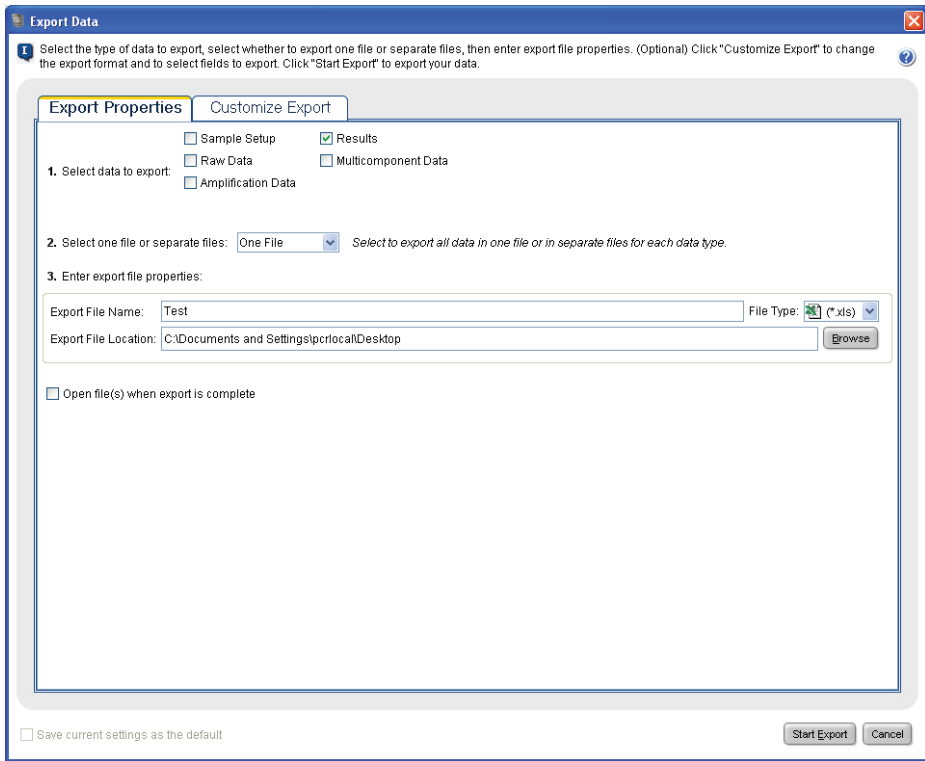

Figure 22. The 'Export Data' window.
2. On the 'Export Properties' tab of the 'Export Data' window (Figure 22), select the following Export Properties: